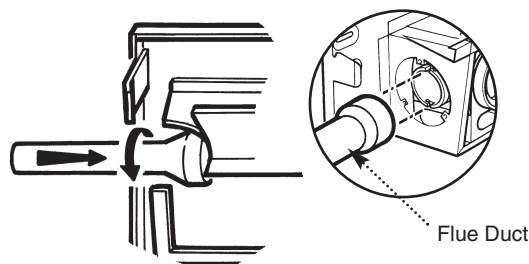

Fig. 57
3. Locate the flared end of the flue duct over the bayonet fitting on the turret, taking care not to damage the 'O' ring. Lock the flue duct in place by pressing in and turning clockwise (Fig. 57).